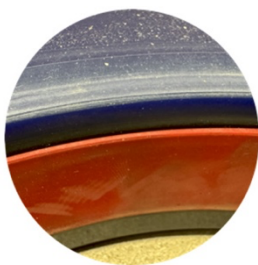

Figure 9:
- ☐ Refer to Figures 9 - 13 for examples of Tri-Ply Seals that should be replaced and taken out of service. NOTE: this list is not exhaustive.